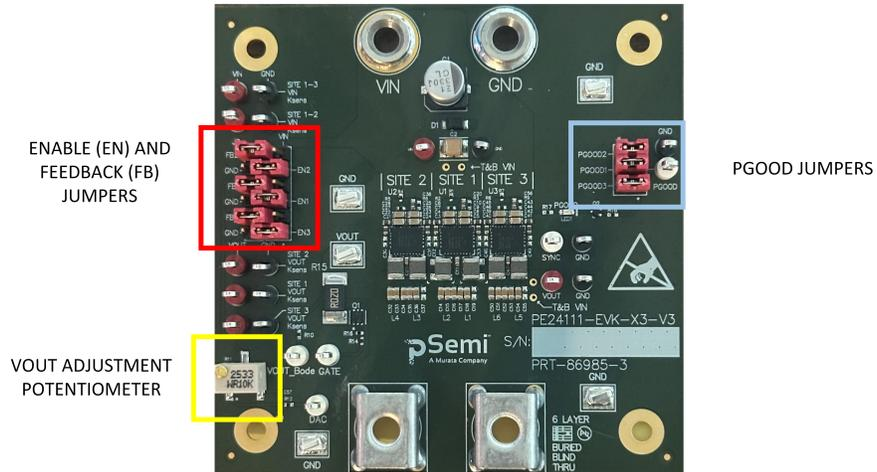

Figure 3. Enable and feedback jumper position and V_{OUT} potentiometer
The provided jumpers connect the enable pins to VIN or GND to enable or disable each device. Normal operation requires the EN jumpers to be in place and connected to VIN for the given board configuration. There are also jumper positions for the feedback (FB) pins of each device, which allow connection to VIN or to the other device's FB pins (common FB). Normal operation requires the common FB pin configuration. Figure 3 shows the x3 board with one jumper in place for the EN pin and FB pin of each device.
The output voltage is adjustable by varying the potentiometer R11, as shown in Figure 3. Adjusting the potentiometer clockwise decreases VOUT. Although the potentiometer allows for a wider VOUT range, limit the VOUT range from 0.35–0.70V maximum.